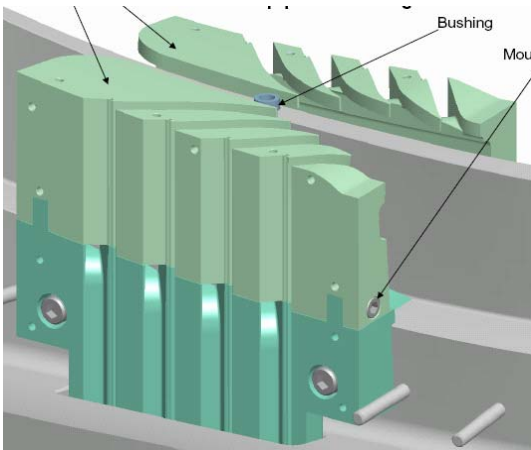

Figure 12-Upper Lead Blocks & Bushing
- Loosely mount the lower lead blocks with ½” socket head bolts with 2 special washers that fit in the counter bored holes. Tilt the lower lead blocks backward away from the tee and slip (2) “shim” washers onto the ½” bolts that will screw into the bosses. [4/block, 8 total] Carefully tilt the lower blocks up straight and push against the bosses. Leave the bolts loose not tight.
- Attach the upper lead blocks on each side and position them so the upper and lower block faces are flush and the triangular insert grooves are aligned. Insert a temporary filler strip into the 4 grooves and tighten the 3/8” socket head bolts into each end to secure the upper and lower blocks as a single unit. [Figure 12-Upper Lead Blocks & Bushing]